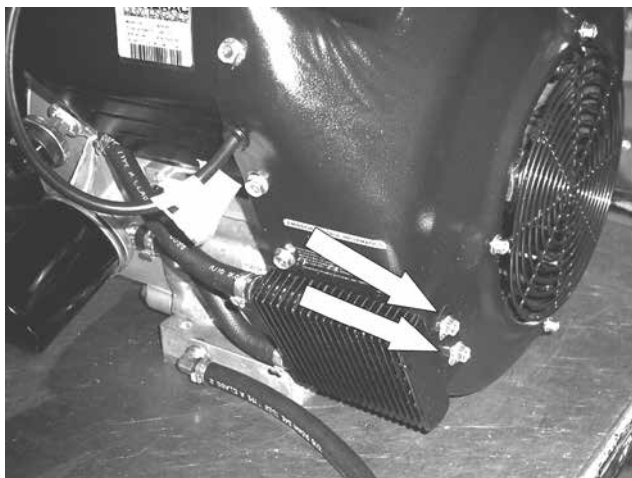
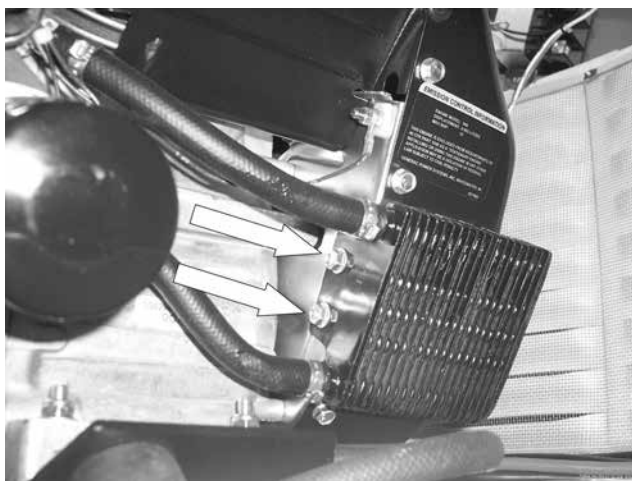

Figure 246.
Figure 247.
14. **Unbolt Oil Cooler:** Using a 10 mm socket remove the two 10 mm bolts from the front of the oil cooler. See Figure 246. Remove the two 10 mm bolts from the rear of the oil cooler. See Figure 247.